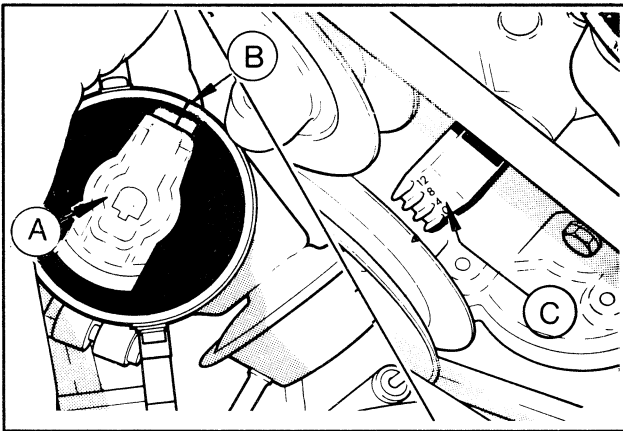

FIG. 8 Rotor Location
4. Position engine at TDC on No. 1 cylinder. The notch (TDC) on the crankshaft pulley should be lined up with the 0 mark (TDC) on the front cover and the rotor should be lined up with the scribe mark on the distributor housing (Figure 8).
3. Install distributor into block and install retaining bolt. Rotor should be aligned with scribe mark at this time (Figure 8).